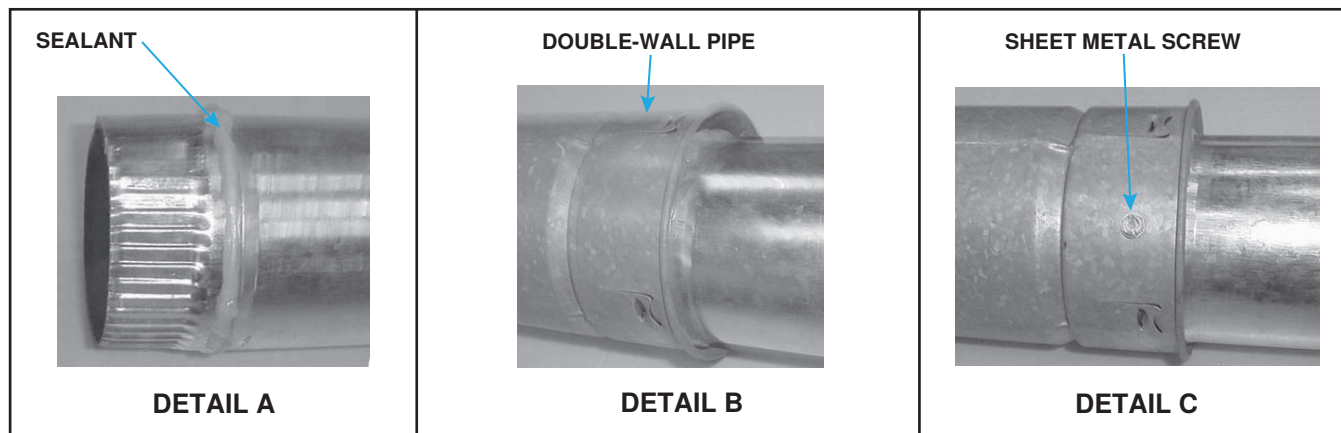

Figure 14. Connecting Double-Wall (Type B) Pipe to Single-Wall or Category III Vent Pipe
- a. Apply continual 1/4-inch bead of silicone sealant (see Figure 14, DETAIL A) around circumference of pipe.
- b. Before sealant has any time to dry, insert pipe with sealant into inner wall of double-wall pipe (see Figure 14, DETAIL B) until bead of sealant contacts inner pipe to create sealed joint.
- c. Drill three small holes—spaced equally around double-wall pipe—below sealant ring (see Figure 14, DETAIL C) and insert 3/4-inch-long sheet metal screws to secure joint. Do not overtighten screws.